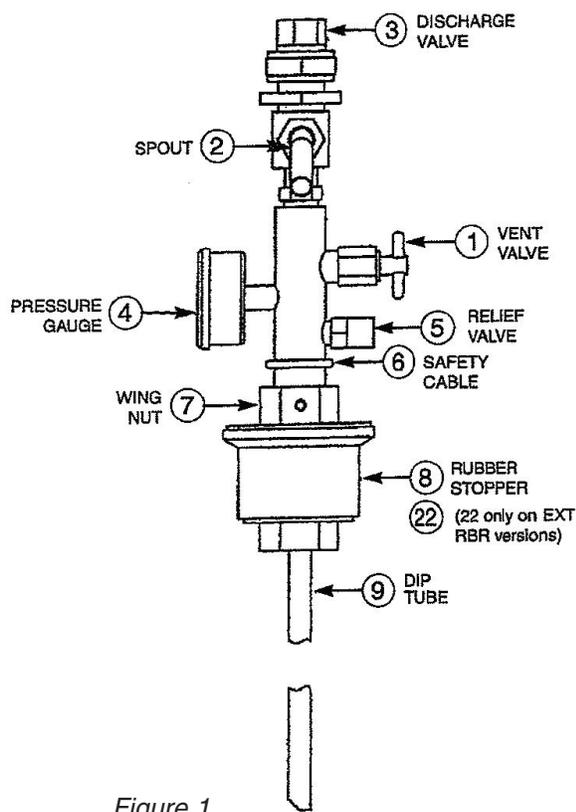

Figure 1
charge device utilizes the normal evaporation of the cryogenic liquid to pressurize a container by plugging the neck of the vessel and forming a hermetic seal. The pressurized vessel can then decant product through the liquid discharge device. Figure 1 shows a drawing of the liquid discharge device. The primary components of the liquid discharge device are listed below:
1. Attach the discharge device spout to the liquid discharge device (refer to Figure 1 for location). A transfer line can be used in place of the discharge device spout.